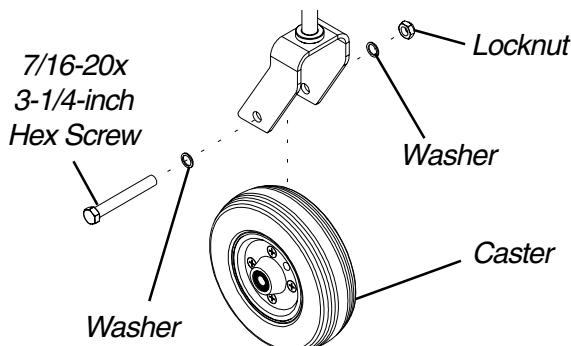

FIGURE 19 - REPLACING STABILIZER WHEEL FOR TYPE A AND TYPE B STABILIZER ASSEMBLIES
Replacing Stabilizer Wheel for Type C Stabilizer Assemblies (FIGURE 19)
9. Remove the six (6) socket screws that secure the existing motor/gearbox and battery tray mounting bracket to the wheelchair frame.
10. Position the new motor/gearbox and existing battery tray mounting bracket on the wheelchair frame at the position noted in STEP 8 as shown in FIGURE 19.